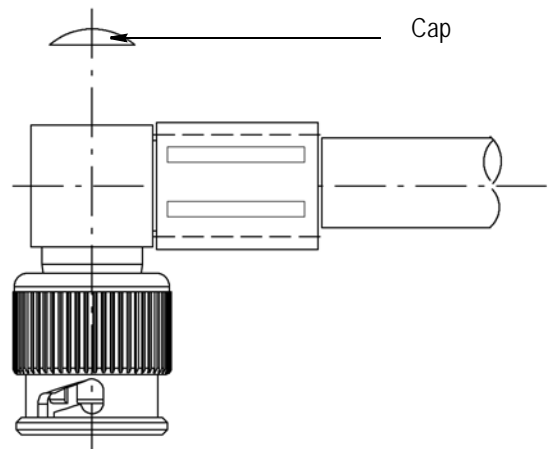

Figure 7
7. Place cap in the subassembly as shown in Figure 7. Peen or dimple the cap firmly in place.